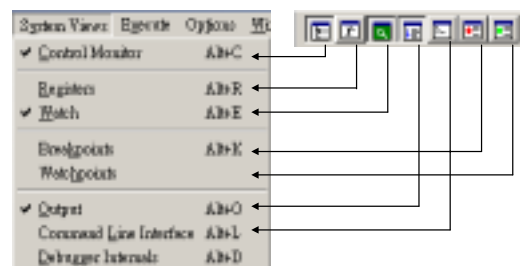
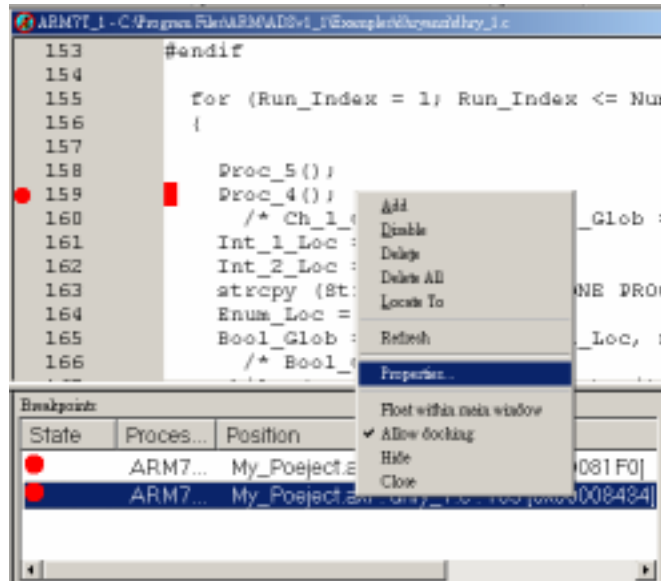
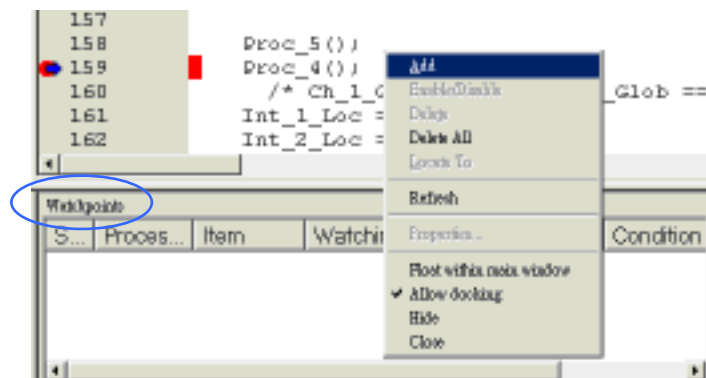
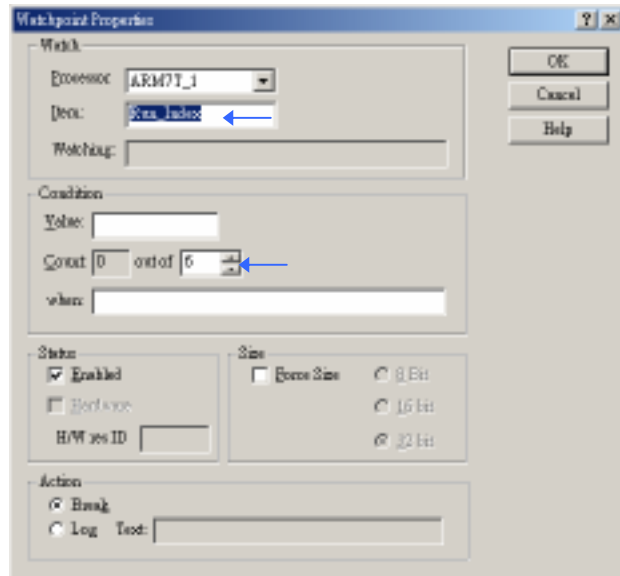

Figure 4. System View Menu and its corresponding Toolbar.
Figure 5. Breakpoints pane (the lower window).
Figure 9. Watchpoints from the System Views.
Figure 10. Watchpoint Properties dialog.
5. To edit the details of the new breakpoint, select **Breakpoints** from the **System Views** menu (Figure 4). The breakpoints pane is displayed (Figure 5).
- 5.1 Double-click on the line in the breakpoints pane that describes the new breakpoint, or right-click on it and select **Properties** (Figure 5), to display a **Breakpoint Properties** dialog.
5. Select **Watchpoints** from the **System Views** menu/toolbar (Figure 4), right-click in the Watchpoints system view (Figure 9), and select **Add** to display the Watchpoint Properties dialog (Figure 10).